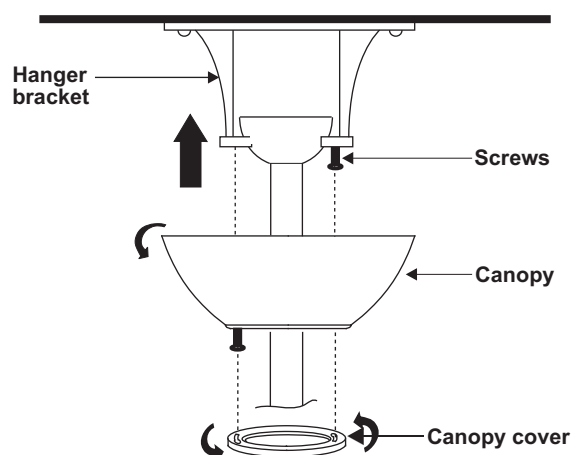

Figure 9
5. Slide the canopy up to hanger bracket and place the key hole on the canopy over the screw on the hanger bracket, turn canopy until it locks in place at the narrow section of the key holes. Note: adjust the canopy screws as necessary until the canopy and canopy cover are snug. (Fig. 9)